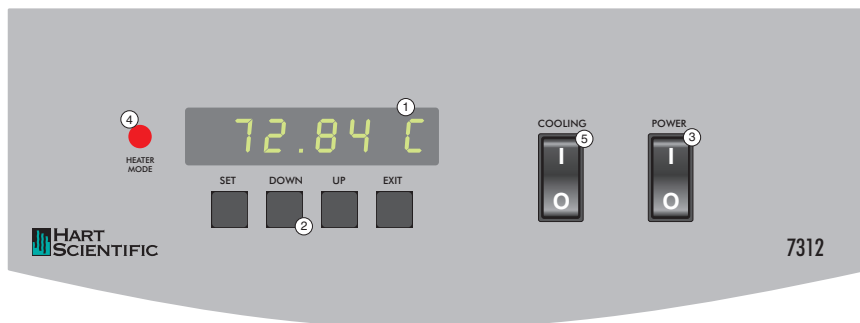

Figure 4 Front Controller Panel
The following controls and indicators are present on the controller front panel (see Figure 4 below): (1) the digital LED display, (2) the control buttons, (3) the bath on/off power switch, (4) the control indicator light, and (5) the cooling on/off switch.